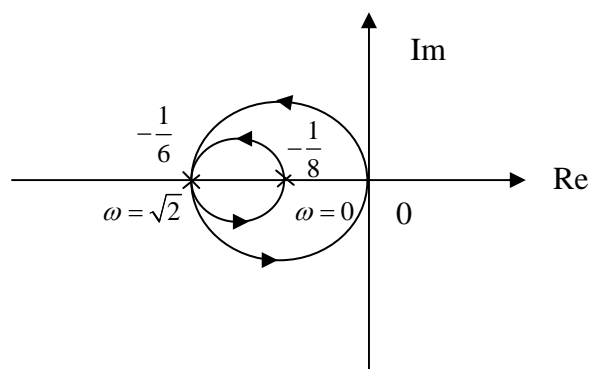

Figure 9.3
9.3 The Nyquist plot of $G(s) = \frac{K(s-1)}{(s-2)(s-4)}$ for $K = 1$ is shown in Figure 9.3. Verify the crossing points of the Nyquist plot with the real-axis and discuss the stability of the system when $K = 1$ and $K = 7$, respectively (use unit feedback). Further, determine the range of K such that the closed-loop system is stable.